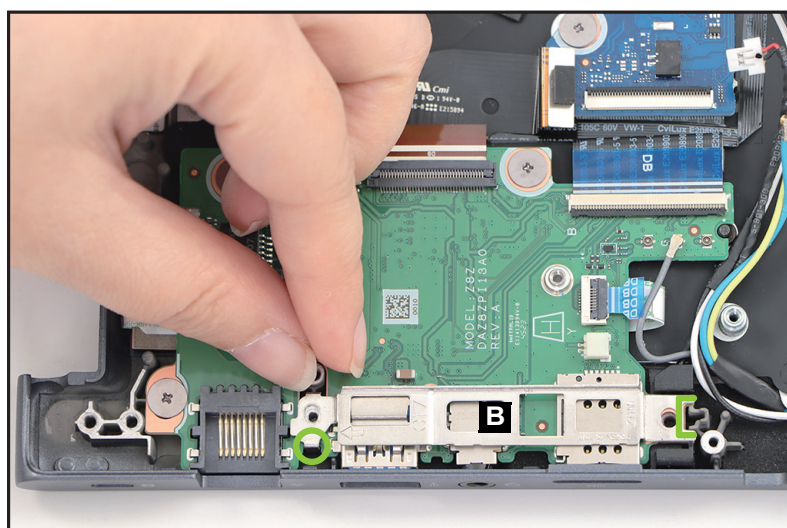

Figure 1-40. LTE Board Removal
2. Lift to release the I/O bracket (B) from the compartment studs (highlighted with the green line and circle) (Figure 1-40). Then remove the bracket.